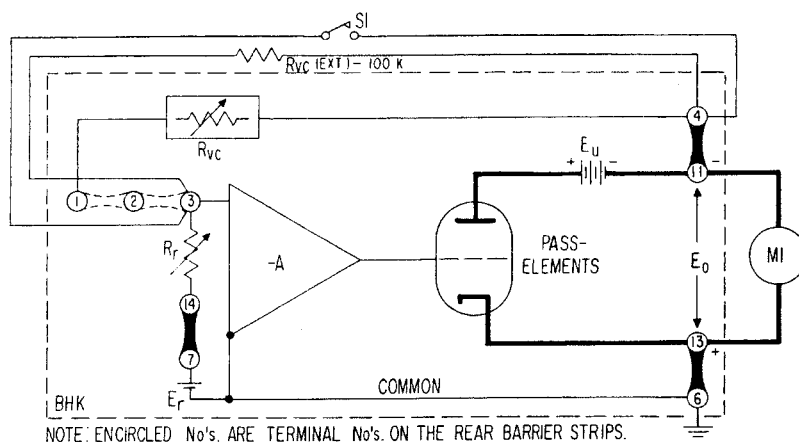

FIG. 3-9 SETUP FOR PRECISION PROGRAMMING RATIO ADJUSTMENT, VOLTAGE MODE.
- b) **With the line power removed** from the power supply, disconnect links on the rear barrier-strip TB301 between terminals (1)—(2)—(3). (The double link is used for insulating purposes since the voltage across (1) and (3) may equal the maximum output voltage.)
- c) Connect external components as shown in FIG. 3-9. Turn line power "on". With S1 open and R_{VC} , for example, 100K ohms, approximately 100 volts output voltage will be read on M1.